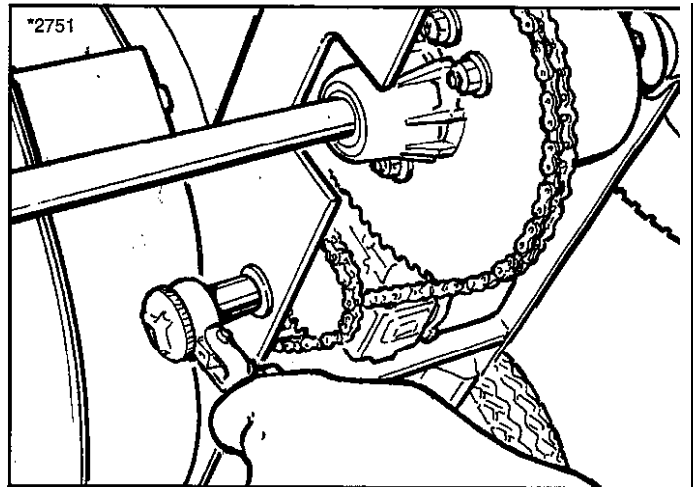

Figure 49. Loosen Hex Nut To Adjust Tension On Front Chain
1. Loosen hex nut that locks sprocket in position, and move sprocket forward or backward until chain flexes approximately $\frac{1}{8}$ " when pressed midway between sprockets. Tighten hex nut securely when proper tension is reached on chain (Figure 49).